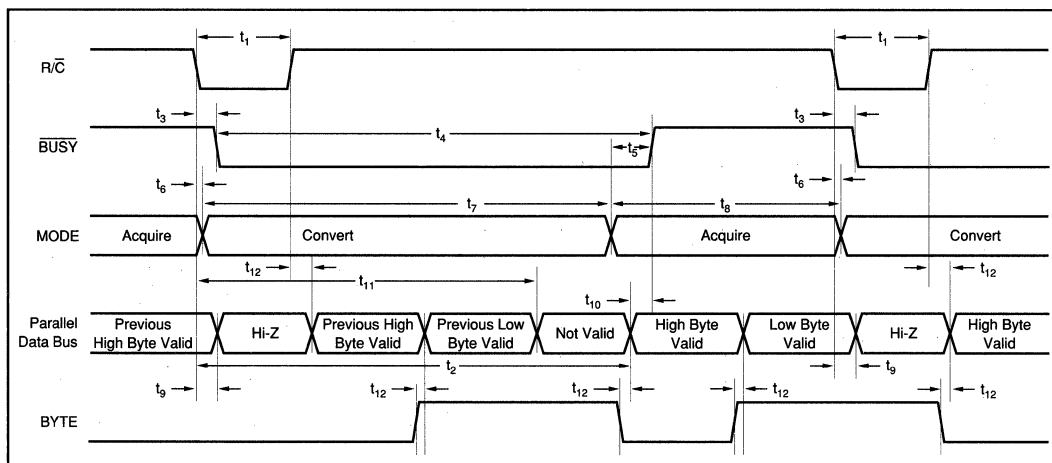

FIGURE 2. Conversion Timing with Parallel Output ($\overline{\text{CS}}$ and DATACLK tied LOW, $\overline{\text{EXT/INT}}$ tied HIGH).
The ADS7806 will begin tracking the input signal at the end of the conversion. Allowing 25µs between convert commands assures accurate acquisition of a new signal. Refer to Tables III and IV for a summary of \overline{CS} , R/\overline{C} , and $BUSY$ states and Figures 2 through 6 for timing diagrams.
NOTE: (1) See Figures 2 and 3 for constraints on data valid from conversion "n-1".
After conversion 'n' is completed and the output registers have been updated, $\overline{\text{BUSY}}$ (pin 24) will go HIGH. Valid data from conversion 'n' will be available on D7-D0 (pins 9-13 and 15-17). $\overline{\text{BUSY}}$ going high can be used to latch the data. Refer to Table VI and Figures 2 and 3 for timing constraints.
After conversion 'n' has been initiated, valid data from conversion 'n-1' can be read and will be valid up to $12\mu\text{s}$ after the start of conversion 'n'. Do not attempt to read data beyond $12\mu\text{s}$ after the start of conversion 'n' until $\overline{\text{BUSY}}$ (pin 24) goes HIGH; this may result in reading invalid data. Refer to Table VI and Figures 2 and 3 for timing constraints.